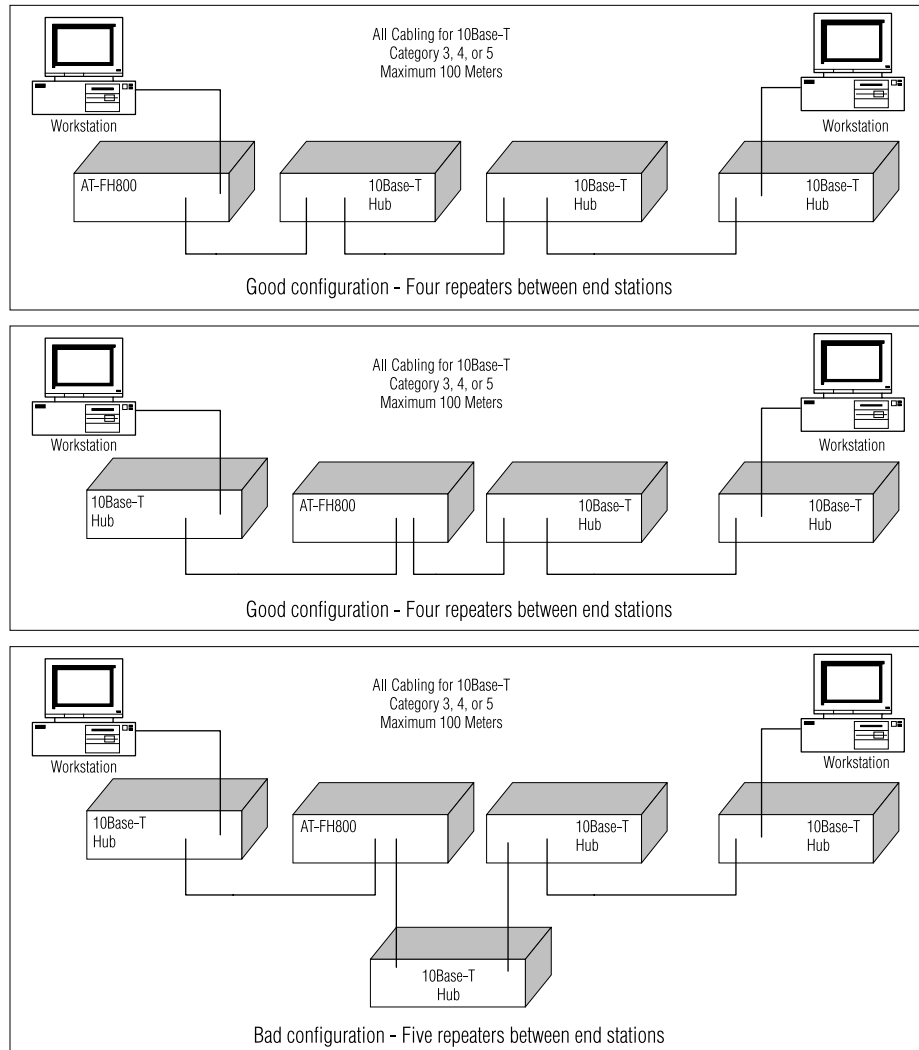
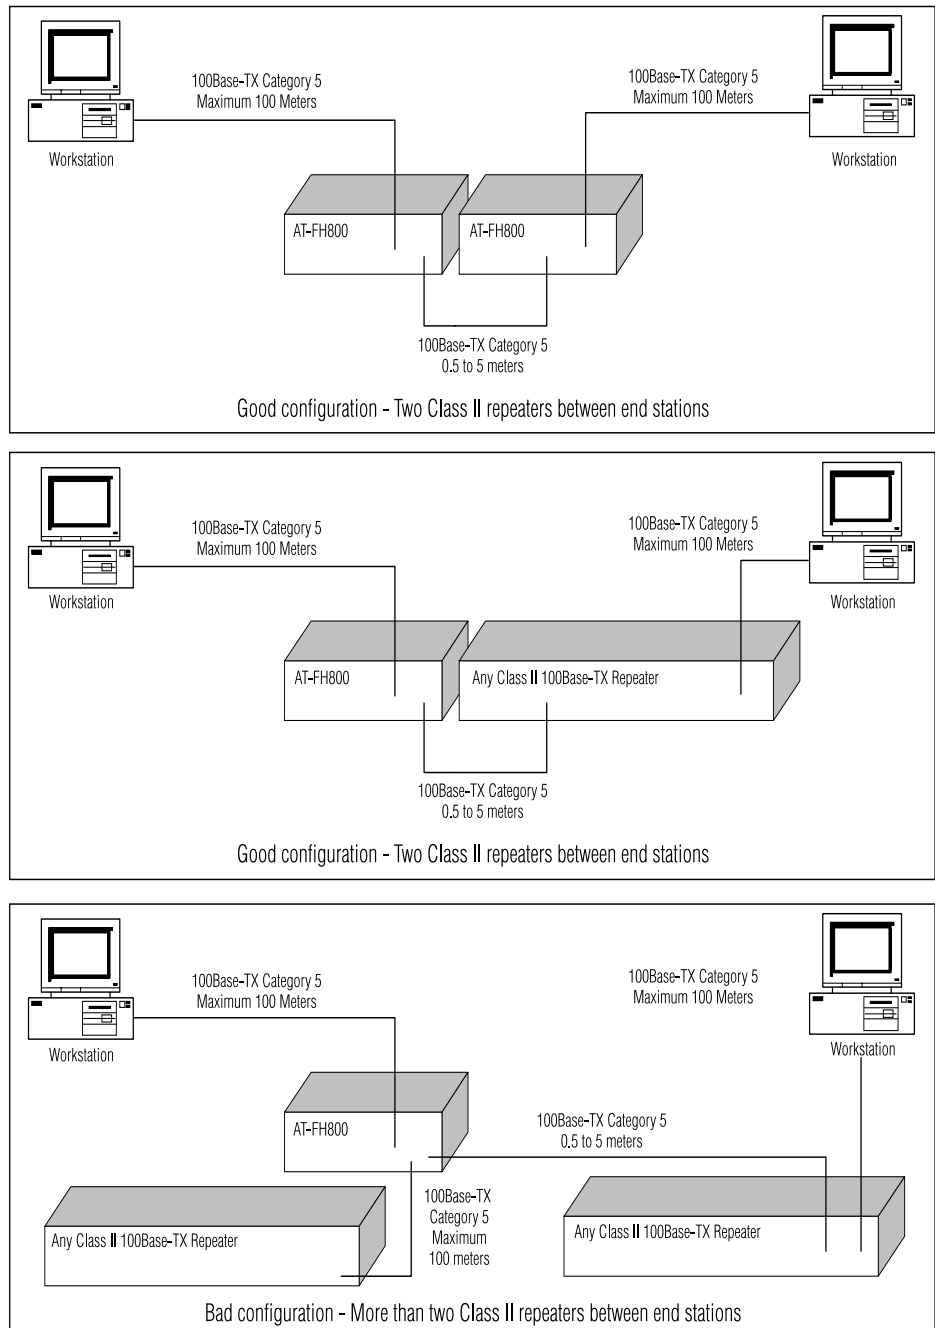

Figure 4 10Base-T Cascade Configuration
Figure 5 100Base-TX Cascade Configuration
3. When connecting to another hub running at 10 Mbps, you can cascade up to 4 hubs, and use up to 100 meters (328 feet) for each inter-hub link. However, if you cascade to another hub running at 100 Mbps (such as two dual-speed hubs), you can only cascade two hubs, and the inter-hub cabling must be limited to 5 meters (16 feet). Configuration examples of dual-speed hubs with switch for both the 10Base-T (Figure 4) and 100Base-TX (Figure 5) cascade rule each include two workable cascade configurations and one example of a configuration that will not work (does not cascade correctly).